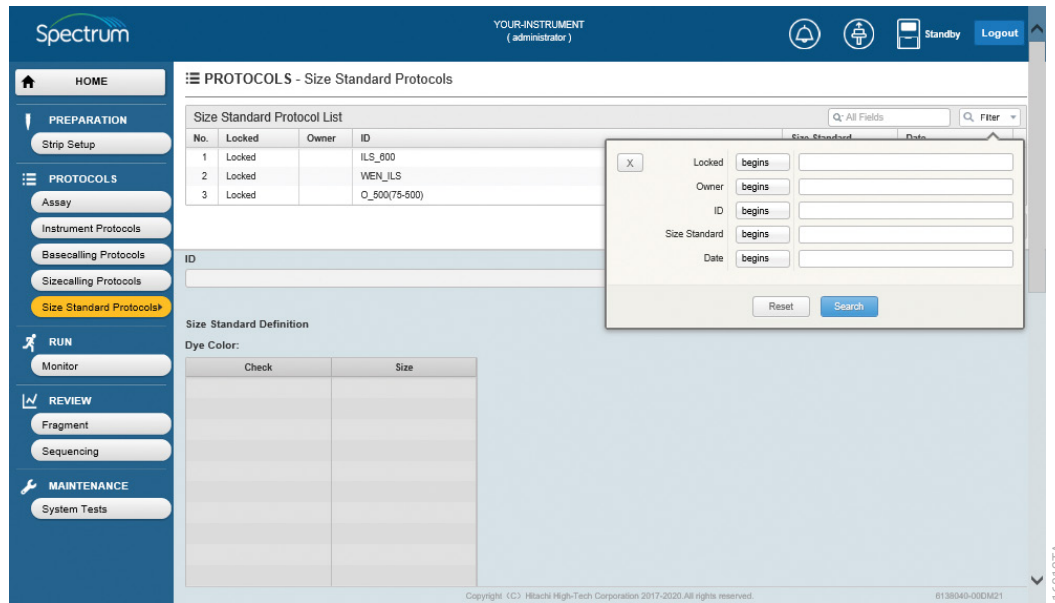

Figure 64. Size Standard Protocol List search filter option selection.
3. After selecting the appropriate search field, select the magnifying glass or down arrow icon in the Filter box to display filtering options by the different fields (Figure 64).